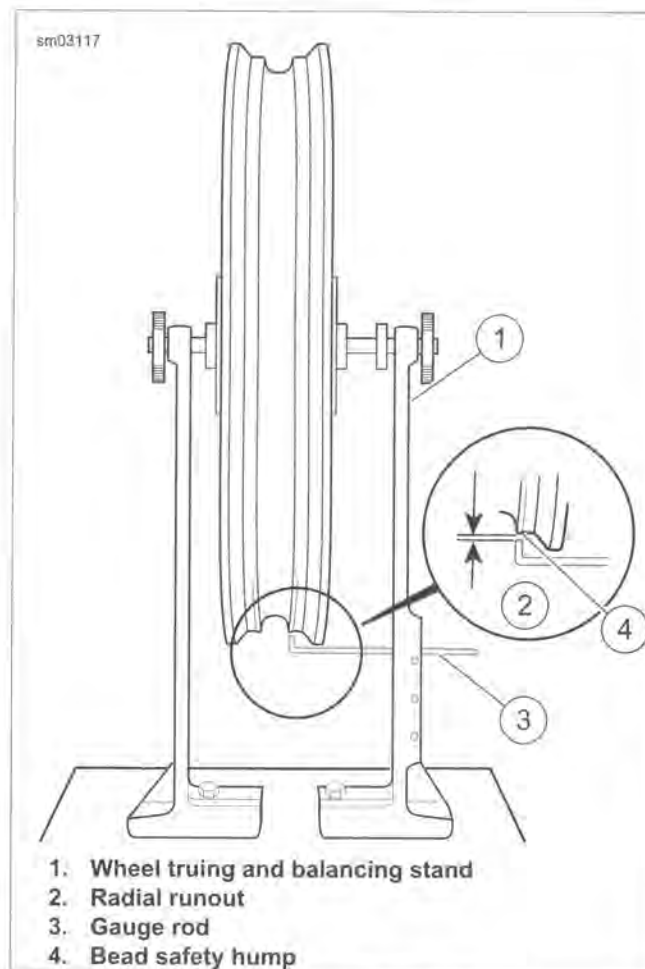

Figure 2-24. Checking Radial Runout
1. See Figure 2-24. Mount wheel in WHEEL TRUING AND BALANCING STAND (Part No. HD-99500-80).